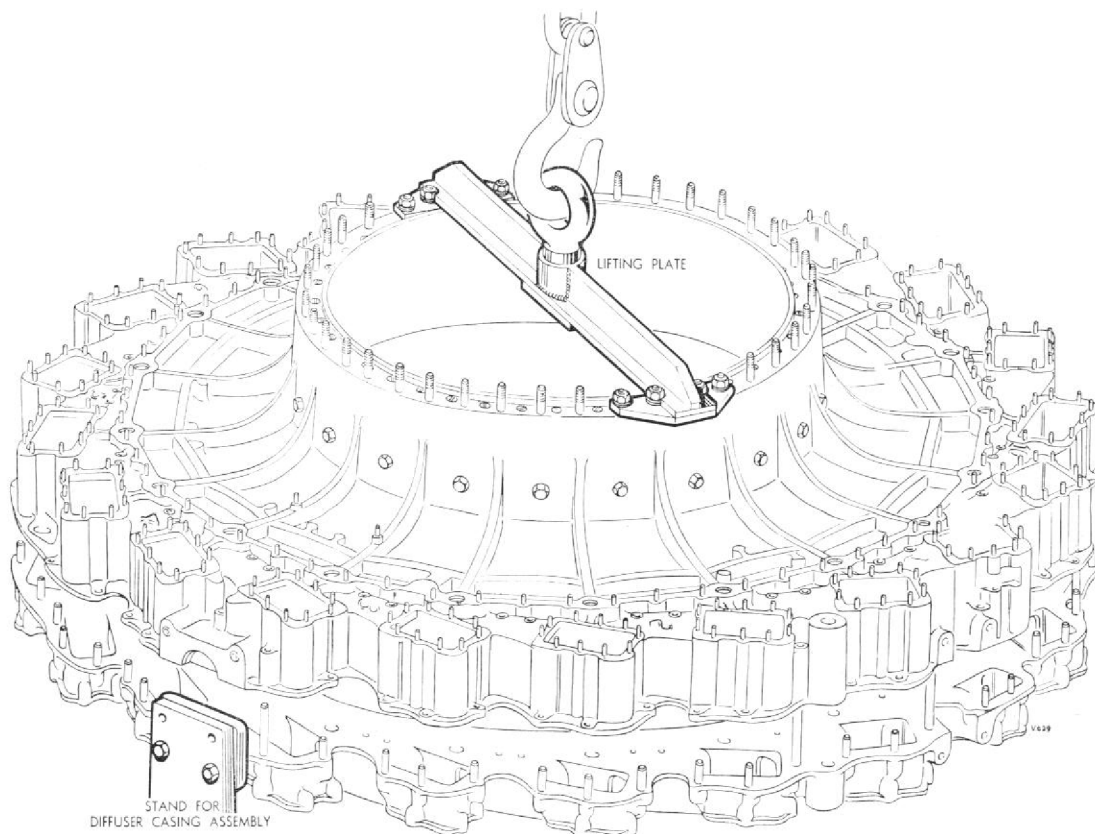

Fig. 3. Lifting plate T.72765 attached to diffuser casing.
2. Engage the hook of the lifting gear with the eye of the lifting fixture and just tension the chain, Fig. 3.